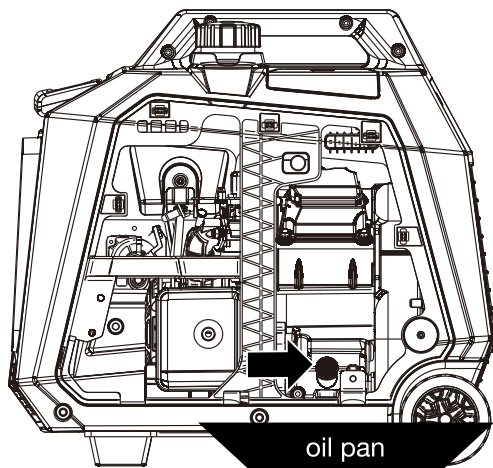

Figure 9: Place oil pan under oil fill/drain plug
4. Place oil pan (or suitable container) under the oil fill/drain plug (see Figure 9).